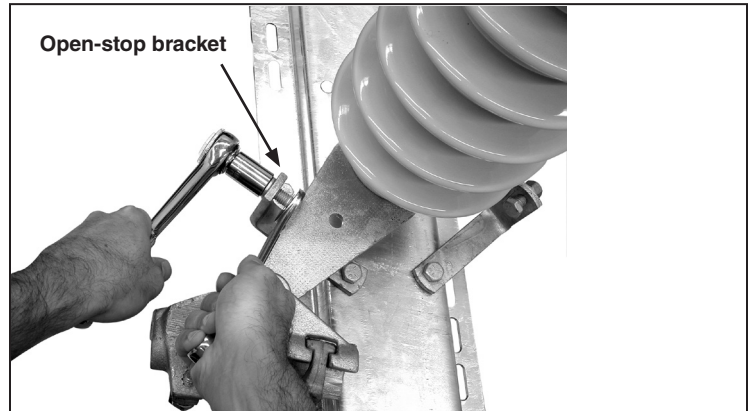

Figure 8. Attach the open-stop bracket to the switch pole.
STEP 6. Attach the open-stop bracket to the switch pole that will be connected to the vertical operating pipe or the outboard bearing. Adjust the stop bolt for 90-degree opening. See Figure 8 as well as Detail J on the erection drawing.